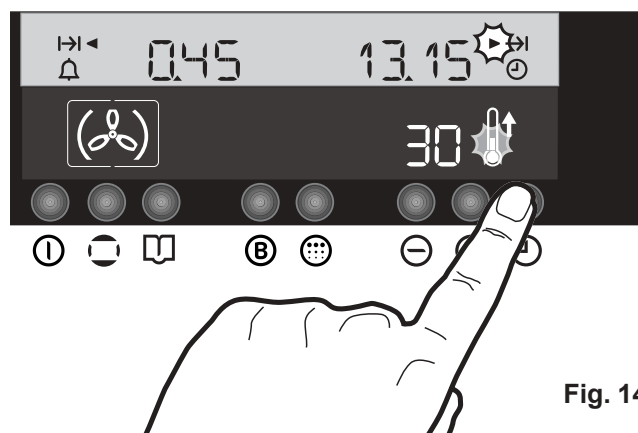

Fig. 14
2. Press the "Time Function" button  twice: the symbol  flashes near the "End of Cooking Time" symbol  (Fig. 14).